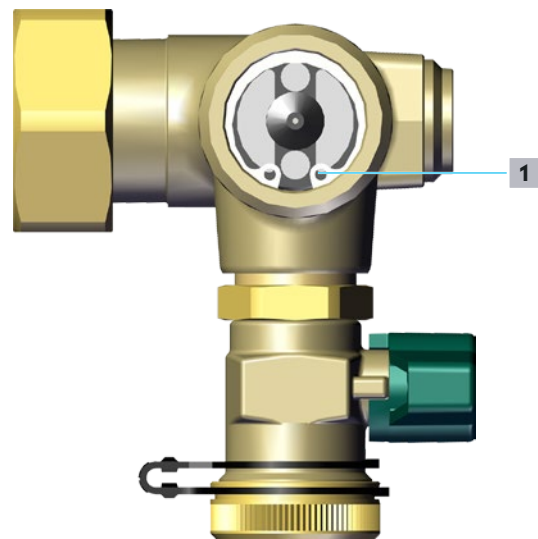

Fig. 33: Circlip
- 1** Loosen the circlip (position **1** in Fig. 33 on page 50) with suitable circlip pliers.
- 2 Insert the circlip (position 1 in Fig. 33 on page 50).